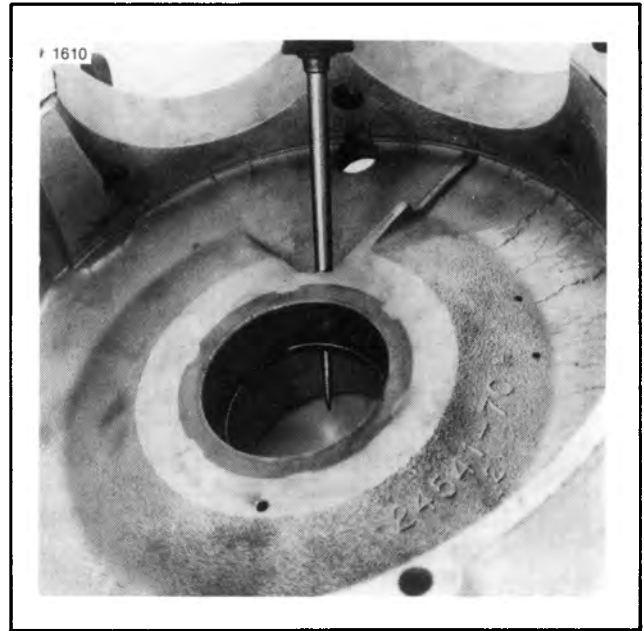
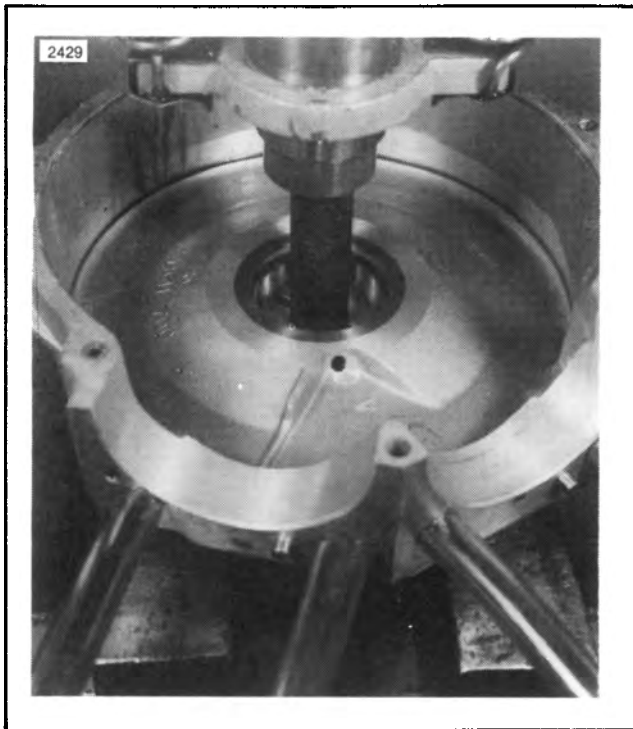

Figure 3-45. Removing Lock Ring
Figure 3-44. Removing Left Crankcase Bearing Races
7. See Figure 3-44. If left main bearing is to be replaced, press out bearing races (11 and 13, Figure 3-42) from opposite sides of crankcase hole, using CRANKSHAFT BEARING REMOVAL & INSTALLATION TOOL, Part No. HD-94547-80. If bearing set is being replaced, remove lock ring (12) using a pin punch or similar tool. Rotate lock ring in groove so that one edge covers oil hole. Insert tool into oil hole with tapered end underneath lock ring. Tap on tool to force one end out of groove as shown in Figure 3-45. Starting at this free end, push ring out of bearing bore.